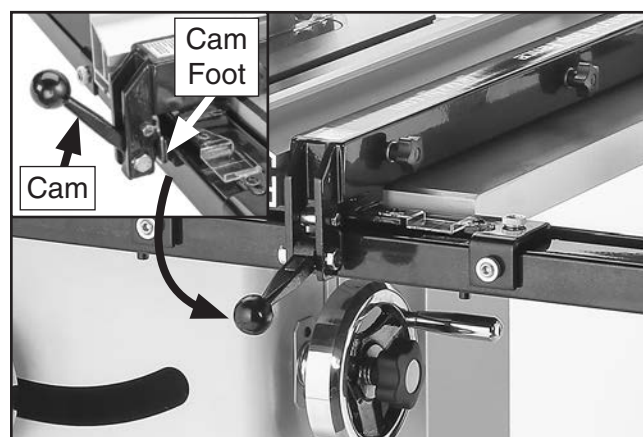

Figure 26. Fence installed on rails.
15. Place fence on rails (on right hand side of blade, as shown in **Figure 26**).